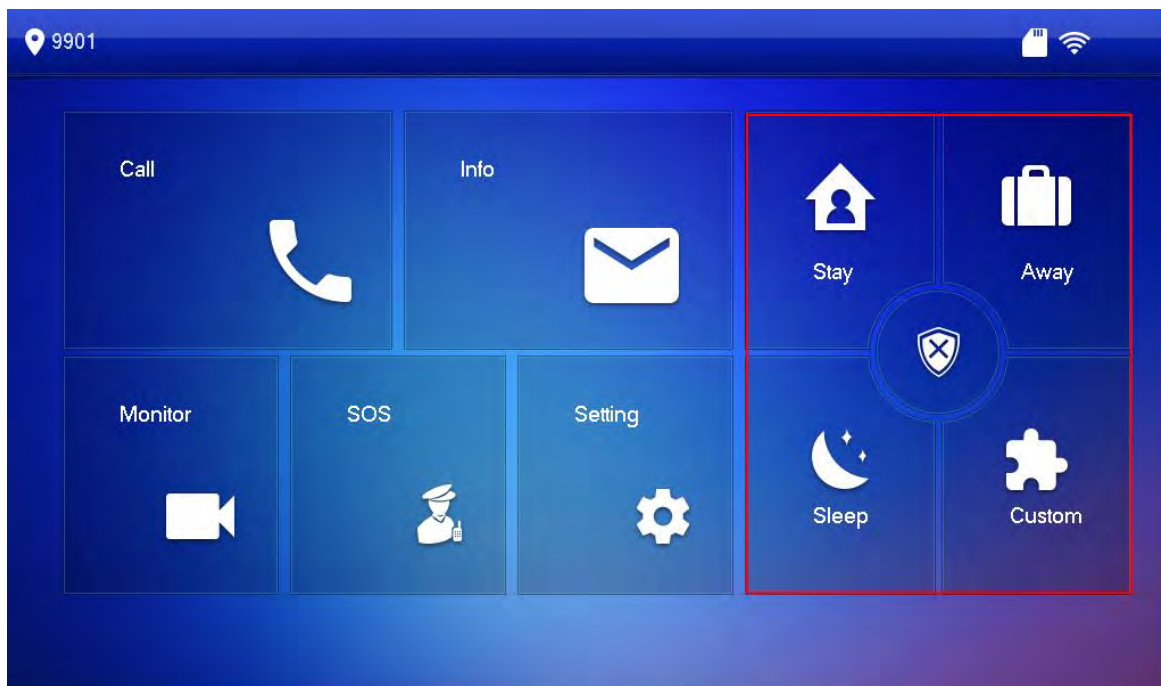

Figure 5-21
Step 1. In homepage, press . See Figure 5-21.